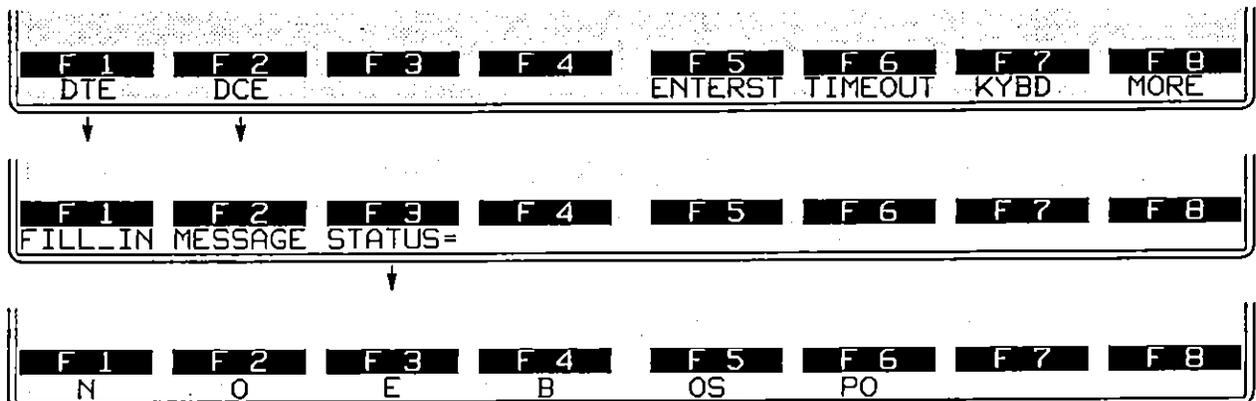

Figure 45-5 Frame types.
1. *Fill-In and Message.* The softkeys for *FILL_IN* (Fill-In Status Unit), *MESSAGE* (Message Signal Unit), and *STATUS=* (Link Status Signal Unit) are illustrated in Figure 45-5. Press a softkey to write one of these signal-unit types to the Layer 2 spreadsheet.
2. *Link Status.* *DTE* (or *DCE*) *STATUS=* is not a complete condition. Select an *LSU* type from the third softkey rack shown in Figure 45-5. The full set of abbreviations and their meanings is given in Table 45-1.